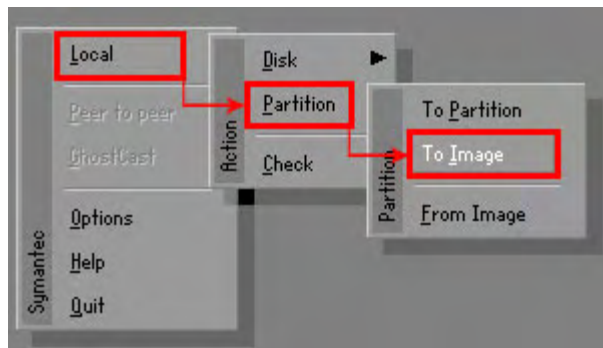

Figure B-10: Symantec Ghost Path
Step 4: Use mouse to navigate to the option shown below (**Figure B-10**).